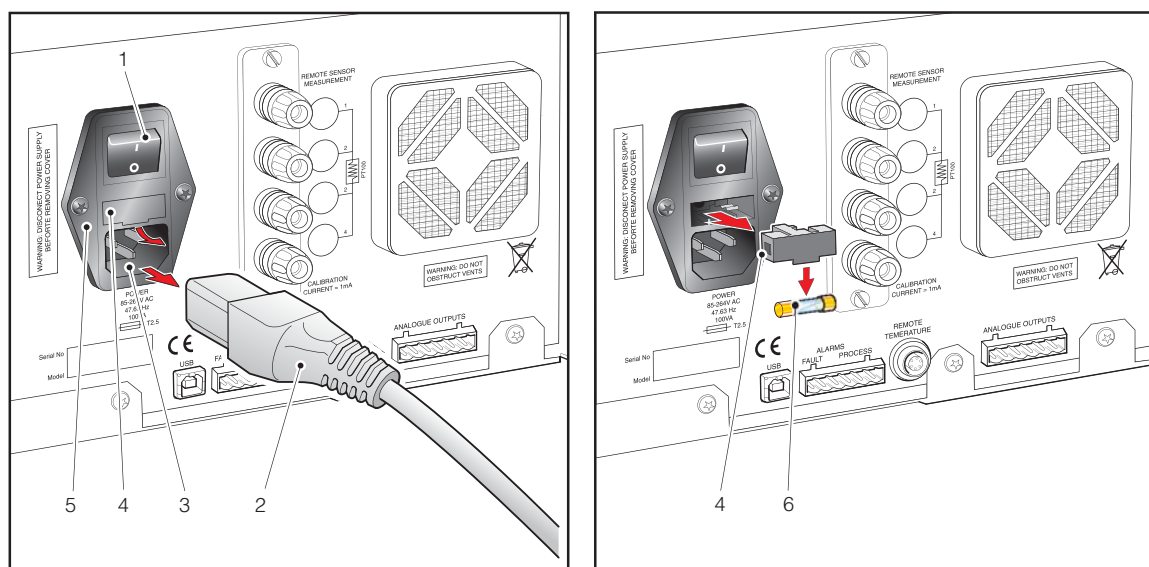

Figure 37 Power Supply Fuse Replacement
1. If the power supply cable is fitted with a fused plug, switch off the power supply, remove the plug, check and, if necessary, replace the fuse. If the instrument still fails to operate, after fitting the fuse and switching the power supply on, proceed as follows (see *Figure 37*).